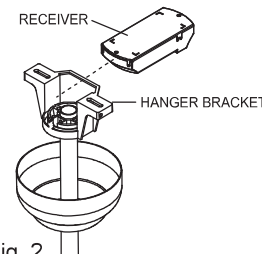

Fig. 2
Step 1. Insert Receiver into Hanger Bracket with the flat side of the Receiver facing the ceiling. (Fig. 2)
Do not use fan speed control in canopies where the Mounting is not as described in Fig2 of the installation instructions.